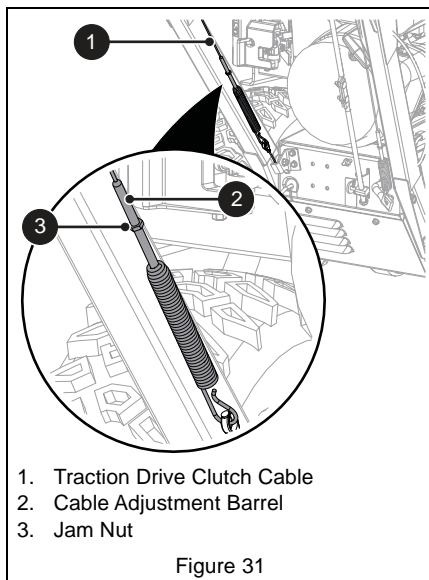

Figure 31
See Figure 31.
7. Tighten jam nut on cable adjustment barrel. See Figure 31.